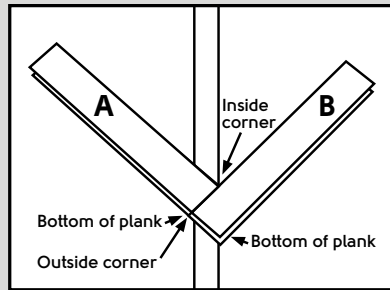

Fig. 5
6. Line up the outside corner edge of the "A" plank with the inside corner on the opposite line position (Fig. 5).